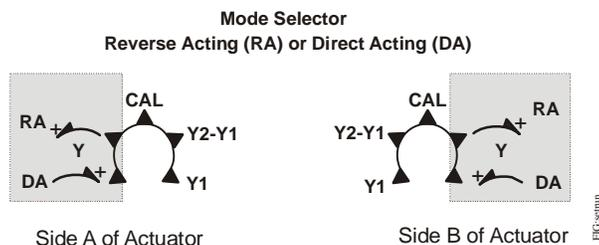

Figure 12: Mode Selector (highlighted)
The ES177B2-ZS(-S) Series Proportional Electric Spring Return Actuators are factory set for Direct Acting (DA) operation. In DA mode, applying an increasing input signal to the control input drives the actuator away from the spring return position. Reverse Acting (RA) operation is also available. In RA mode, applying an increasing input signal to the control input drives the actuator toward the spring return position. Figure 11 and Figure 12 indicate how the drive direction for the actuator depends on the spring return direction and the position of the mode selection switch.